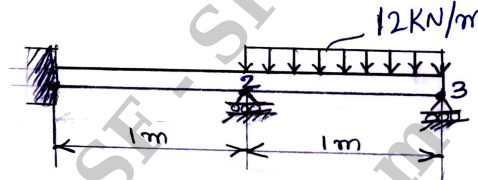

Fig.Q5(b)
b. For the beam and loading shown in Fig.Q5(b), determine the slopes at 2 and 3 and the vertical deflection at the midpoint of the distributed load. Take  $E = 200$  GPa,  $I = 4 \times 10^6$  mm4.